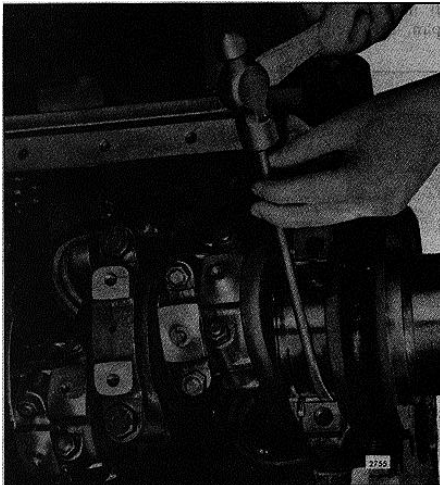

FIG. 4 - Removing Upper Rear Main Bearing Shell
- b. Remove the rear main bearing upper shell by tapping on the edge of the bearing with a small curved rod, revolving the crankshaft at the same time to roll the bearing shell out as shown in Fig. 4.